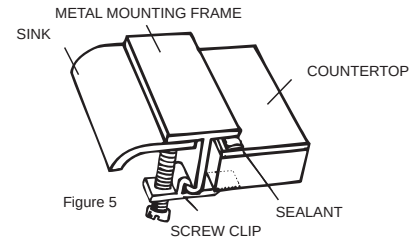

Figure 5
13. Place two screw clips on each of the four sides of the sink so that the clips lock onto the metal mounting frame as shown in Figure 5. Tighten the screws on the clips evenly all around. Check the edges for additional sealant and remove it immediately with a damp cloth.